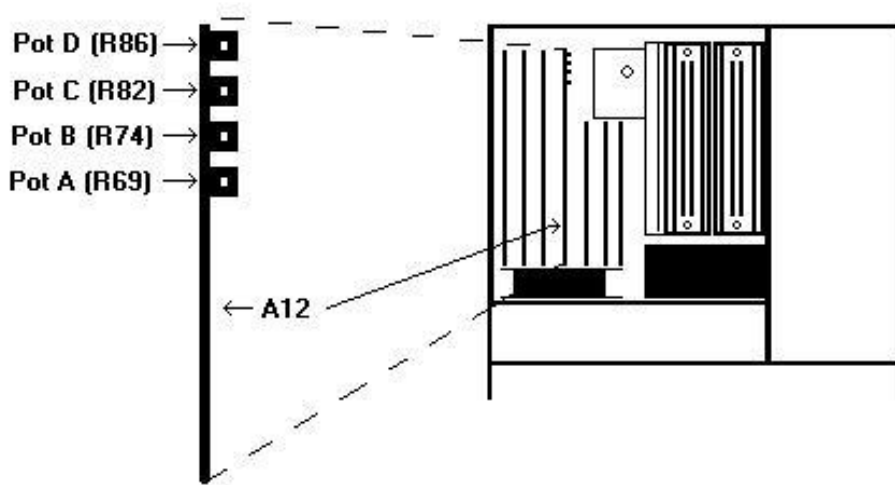

Figure 3. I/O adjustment location.
- (1) Adjust A12 pot A (R69) (fig. 3) for a  $-2.0000 \pm 0.0005$  V dc multimeter indication (R).
- (2) Adjust A12 pot B (R74) (fig. 3) for a  $2.0000 \pm 0.0005$  V dc multimeter indication (R).
- (3) Adjust A12 pot D (R86) (fig. 3) for a  $-2.0000 \pm 0.0005$  V dc multimeter indication (R).
- (4) Adjust A12 pot C (R82) (fig. 3) for a  $+2.0000 \pm 0.0005$  V dc multimeter indication (R).